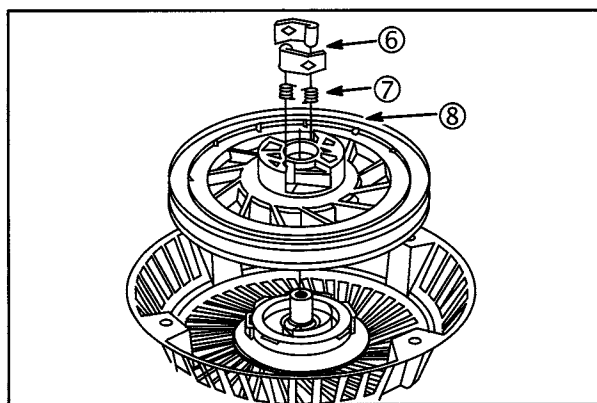

Fig. 65
3. Lift out dogs (6) and dog springs (7).
4. Rotate pulley (8) until it disengages spring.
5. Carefully lift out pulley, **Fig. 65**.